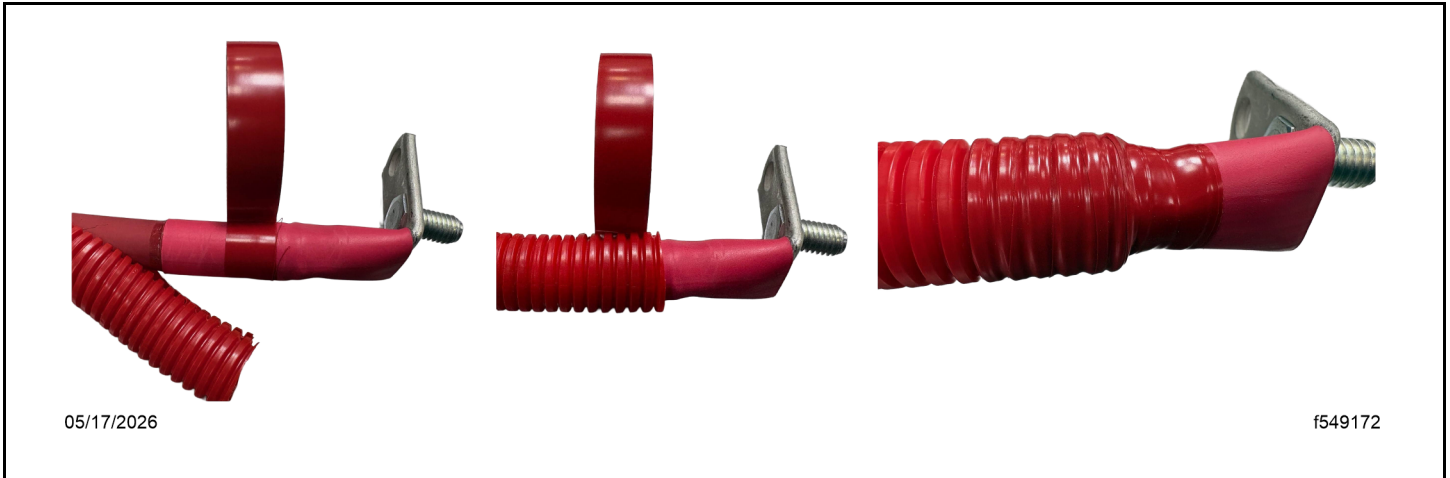

Fig 16, Installing the Convolute Cover
- d. Install the convolute cover by applying red electrical tape to cover the transition from the heat shrink to the convolute cover. See Fig. Fig. 16.